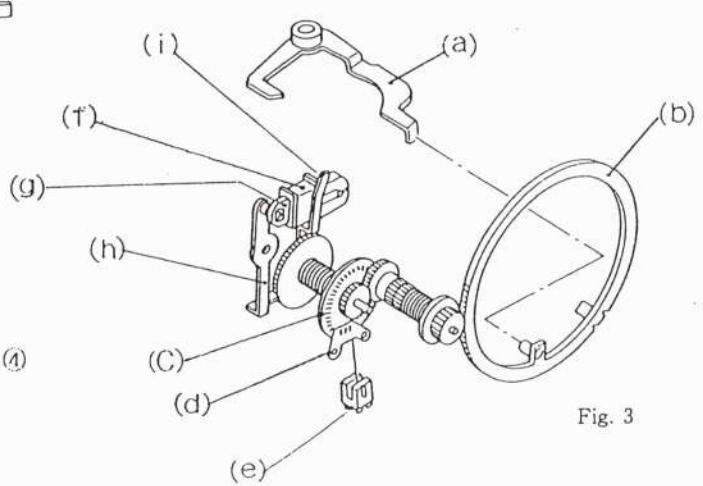

Fig. 3
#### (2) Aperture Control Mechanism. (refer to Fig. 3)